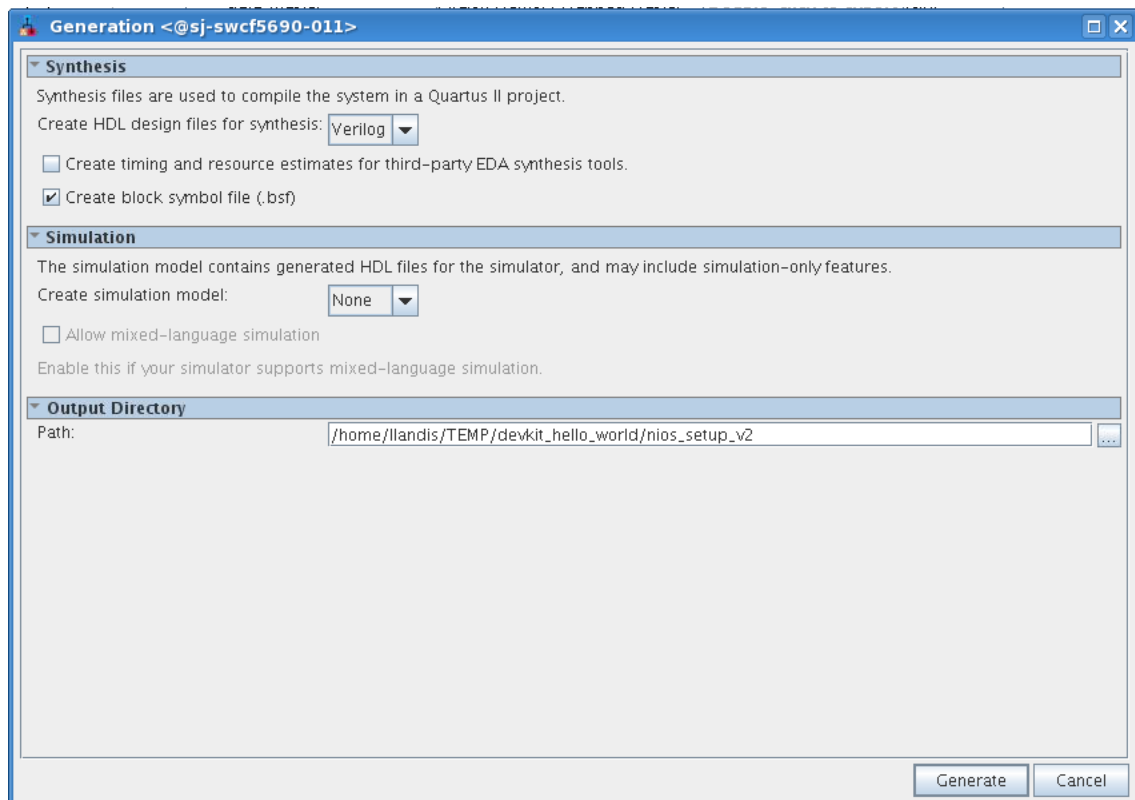

Figure 28: HDL Generation Panel
- ☐ Click on the button **Generate HDL**. A screen like Figure 28 should appear.